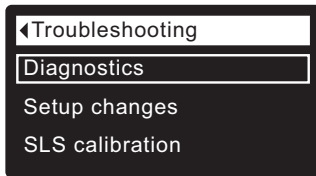

FIG. 150
2. To display the Diagnostics screen from any of the rolling status screens (when an error code is not displayed), press the SELECT (O) button to display the **Main menu**.
4. Press the SELECT (O) button to display the Advanced settings menu.
6. Press the SELECT (O) button to display the Troubleshooting menu (See Figure 150).
1. From any of the rolling status screens, press the SELECT (O) button to display the **Main menu**.
3. Press the SELECT (O) button to display the Advanced settings menu.
5. Press the SELECT (O) button to display the Troubleshooting menu (See Figure 150).
- **Cancel** will return to the Troubleshooting menu (Figure 150).
9. Press the SELECT (O) button.